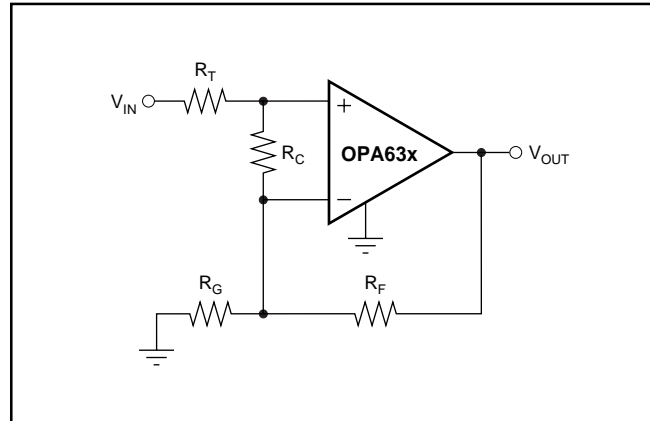

FIGURE 4. Compensated Non-Inverting Amplifier.
Figure 4 shows a non-inverting amplifier that reduces peaking at low gains. The resistor R_C compensates the OPA634 or OPA635 to have higher Noise Gain (NG), which reduces the AC response peaking (typically $5dB$ at $G = +1$ without R_C) without changing the DC gain. V_{IN} needs to be a low impedance source, such as an op amp. The resistor values are low to reduce noise. Using both R_T and R_F helps minimize the impact of parasitic impedances.
Since the OPA634 and OPA635 are voltage feedback op amps, a wide range of resistor values may be used for the feedback and gain setting resistors. The primary limits on these values are set by dynamic range (noise and distortion) and parasitic capacitance considerations. For a non-inverting unity gain follower application, the feedback connection should be made with a 20Ω resistor, not a direct short (see Figure 4 with $R_G = \infty$). This will isolate the inverting input capacitance from the output pin and improve the frequency response flatness. Usually, for $G > 1$ application, the feedback resistor value should be between 200Ω and $1.5k\Omega$. Below 200Ω , the feedback network will present additional output loading which can degrade the harmonic distortion performance. Above $1.5k\Omega$, the typical parasitic capacitance (approximately $0.2pF$) across the feedback resistor may cause unintentional band-limiting in the amplifier response.
The criterion for setting this R_S resistor is a maximum bandwidth, flat frequency response at the load. For a gain of +2, the frequency response at the output pin is already slightly peaked without the capacitive load, requiring relatively high values of R_S to flatten the response at the load. Increasing the noise gain will also reduce the peaking (see Figure 4).